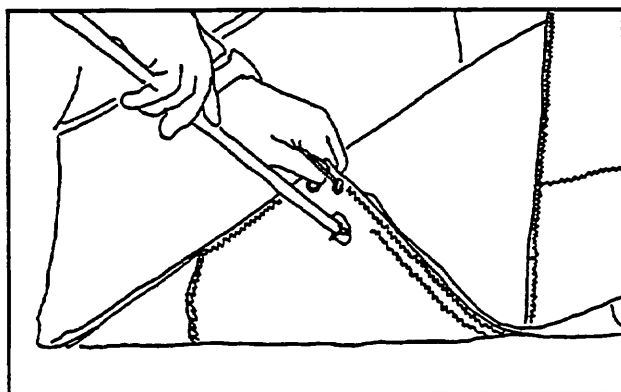

Figure 37
20) Install the plug-in #1 battens. (Figure 37, 38)